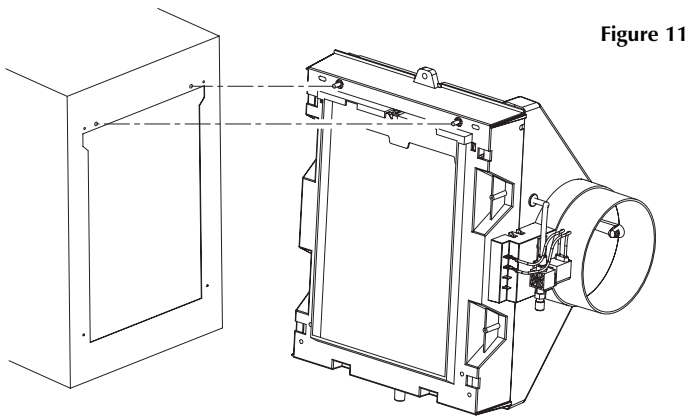
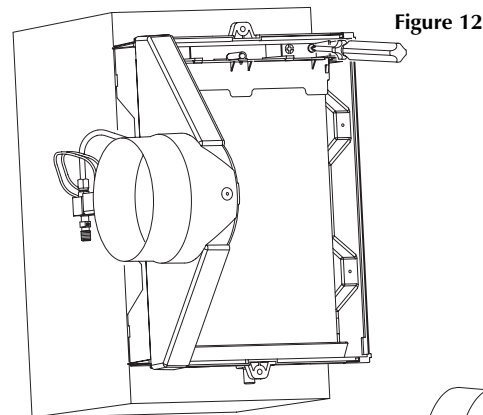

Figure 11
Figure 12
- Mount the humidifier cabinet on the duct. The 2 positioning tabs on the back of the cabinet should align with the 7/32" holes drilled earlier (fig 11) – Use 4 supplied screws to secure the cabinet to the duct (fig 12). If required you may remove the evaporator pad & distribution tray to mount the cabinet, refer to the section in the Maintenance guide for removing the evaporator pad. Using level check to make sure the cabinet is installed correctly.